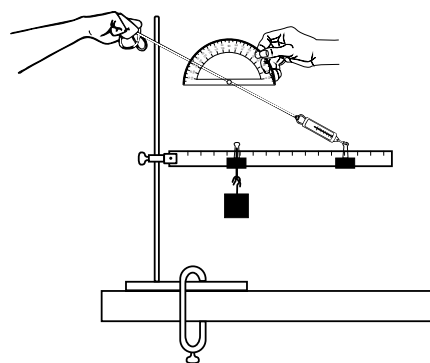

Figure 12.
- Instruct students to slowly raise or lower the string angle, while keeping the boom parallel to the ground, until the string is at the appropriate angle according to the value in the data table. Use a protractor to measure the approximate angle of the string. See Figure 12. All angles should be measured with respect to the horizontal.